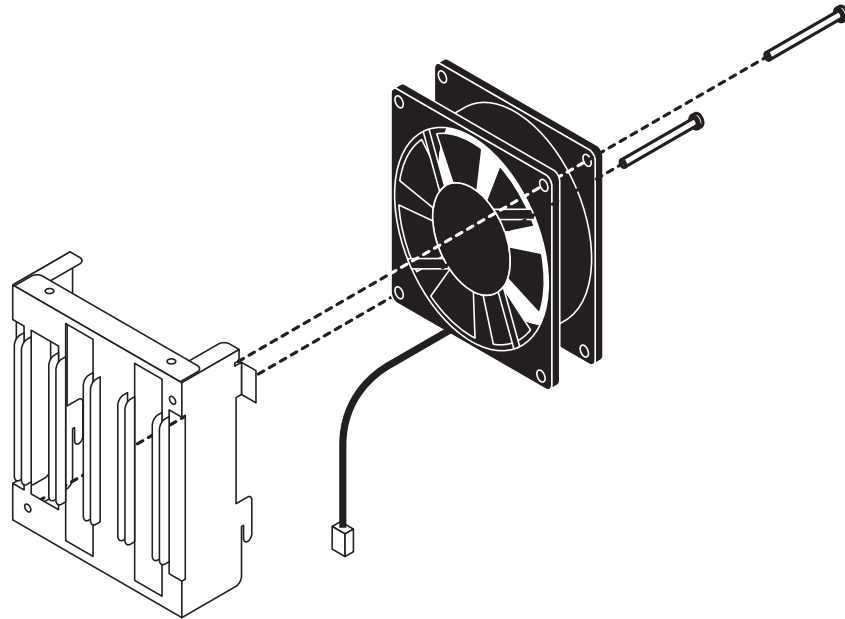

FIGURE 4-24 Replacing the front fan
4. Unhook and remove the board guide (with front fan attached) from the chassis (see Figure 4-24 on page 4-37).